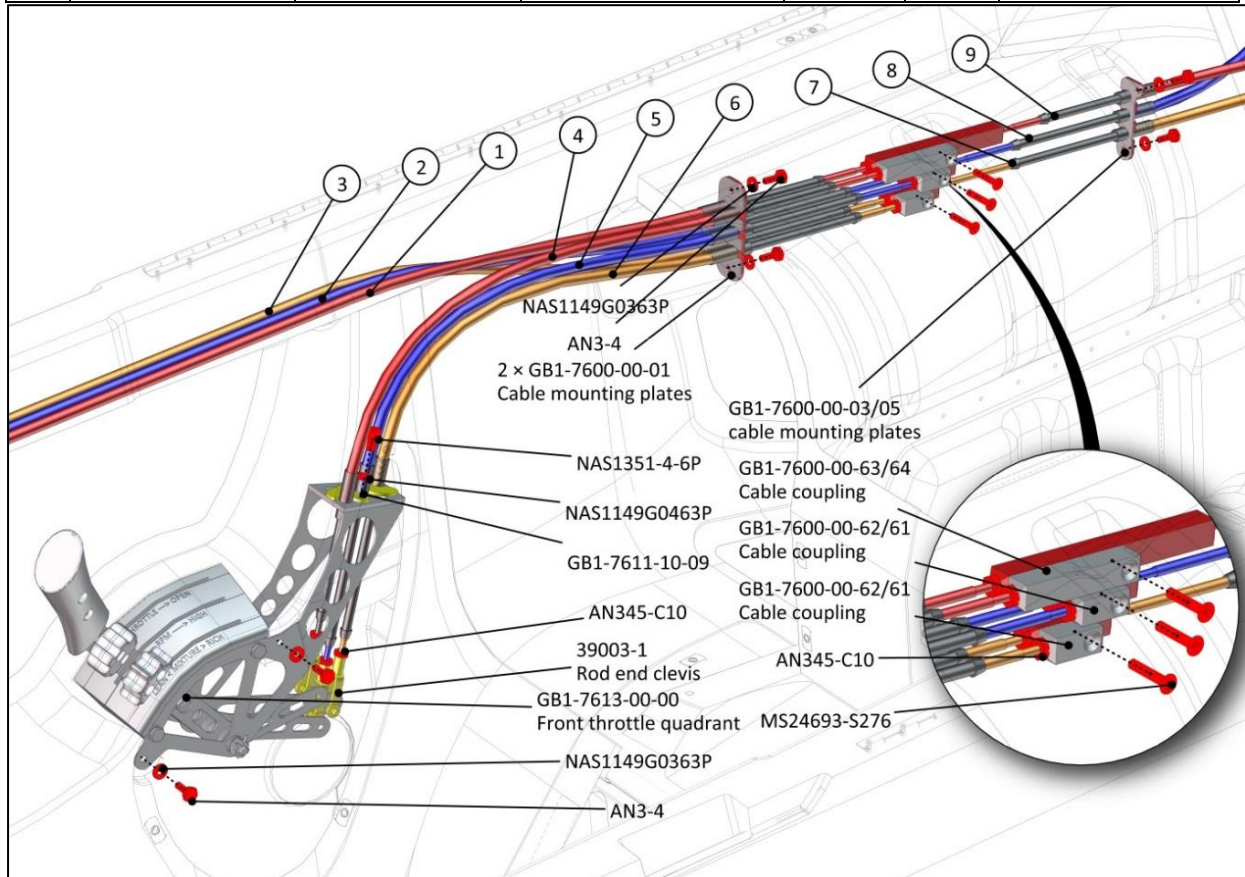

Fig. 73-3
12. Connect couplings as shown on Fig. 73-3
17. Connect to respective couplings as shown on Fig. 73-3